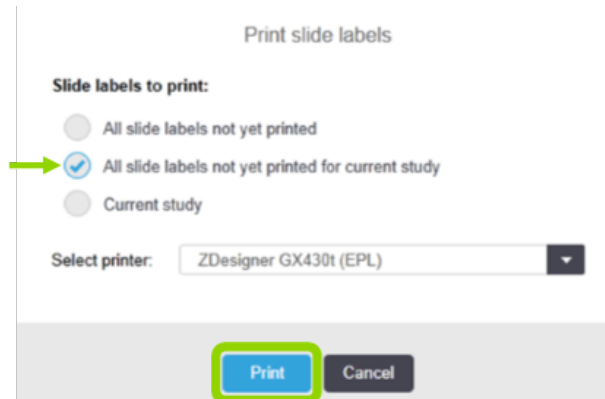

Figure 23: Print Slide Labels window
10. In the **Print slide labels** window (see Figure 23), select **All slide labels not yet printed for current study** and click on **Print**.